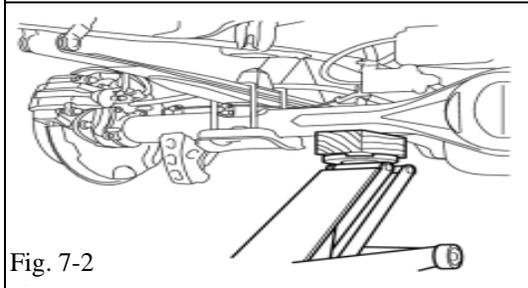

Fig. 7-2
- (f) Support the rear axle housing with a jack using a wooden block to avoid damage. (Fig. 7-2)